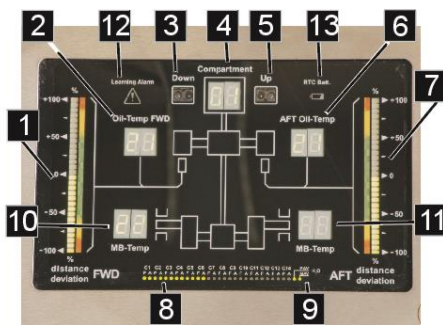

Fig. 97: Indication unit, full configuration
If the system has been installed correctly all respective values subject to installed components can be monitored. All values are displayed on the Indication unit (Fig.97).
1. Use the optical buttons “Up” (Fig. /2) and “Down” (Fig.97/4) to scroll through the different compartments.
The splash oil temperature is measured by the distance sensors as well. The respective temperature is presented as absolute value for each side of a compartment (Fig.97/1 and Fig.97/5).
The temperature of the main bearings (Fig.97/7 and Fig.97/10) will be displayed when the engine has been started and the load increases.
The LED row Fig.97/8 indicate installed distance sensors for every compartment:
The two LEDs Fig.97/9 show the installed water-in-oil sensor: